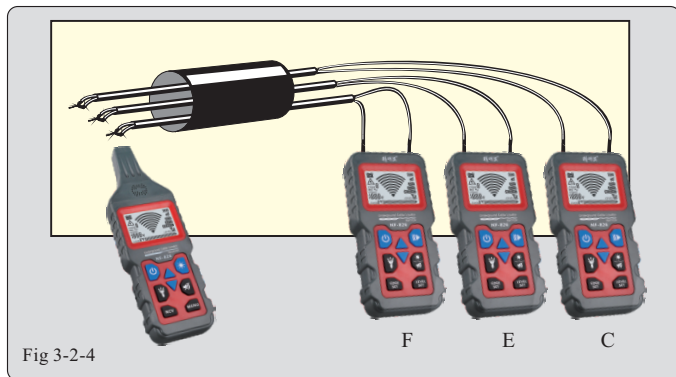

Fig 3-2-4
- ※ Connect the transmitter in a way shown in Fig.3-2-4;